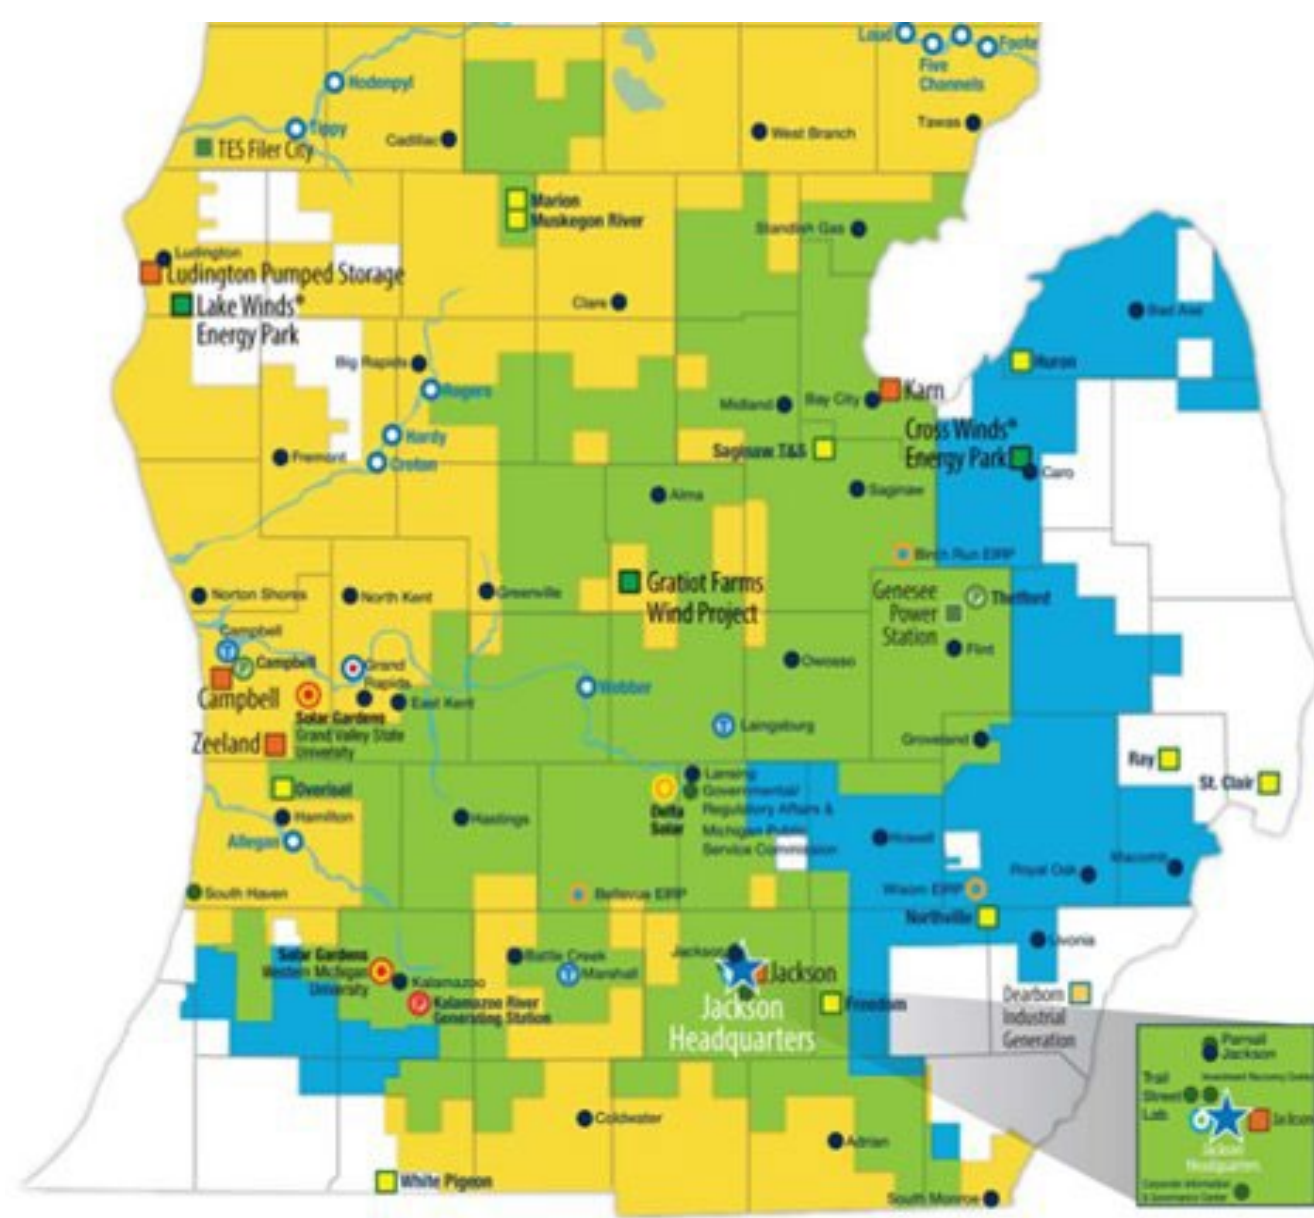

Figure 3. Consumers Electrical and Natural Gas Utility Zones [2]
- Must be within Consumers Energy current combination service area, shown in Figure 3